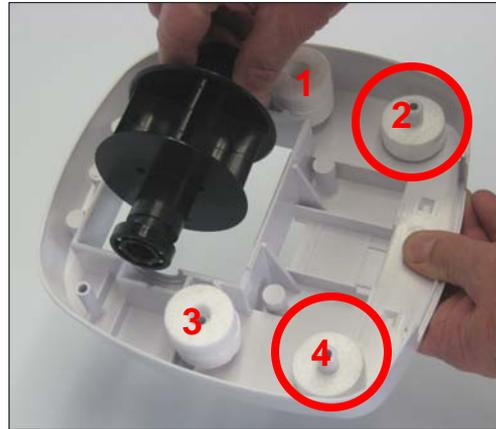

Figure 45
1. Remove the turbine and bearings by pulling up the center of the turbine (fig 45)
Note: **NEW** Cleaner shown (fig 45) has four floats. Floats 2 & 4 are blue and small, while floats 1 & 3 are large and white.
OLD style cleaner only has two (circled on fig 45).